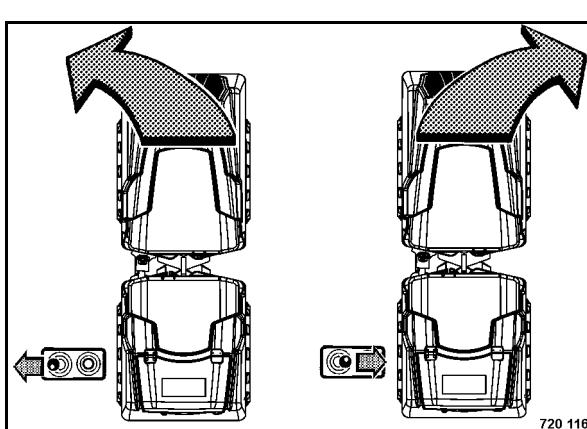

Fig. 42
- Actuate the travel levers (Fig. 42) accordingly.